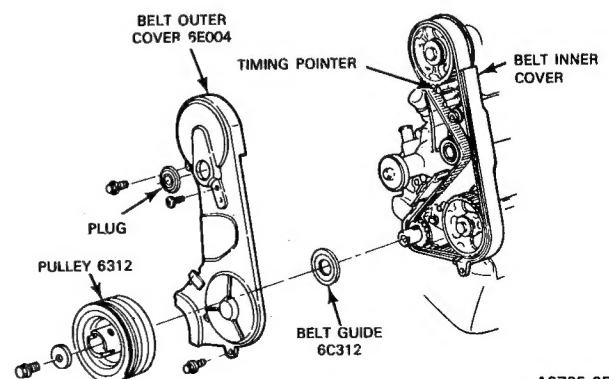

FIG. 9 Camshaft Timing Assembly
1. Remove the access plug (Figure 9) from the cam drive belt cover.
3. Look through the access hole in the belt cover to be sure that the timing mark on the cam drive sprocket (Figure 9) is lined up with the pointer on the inner belt cover.
1. Refer to Figure 9 and remove the timing belt outer cover.
2. If the belt timing is incorrect, loosen the belt tensioner adjustment screw (Figure 9), position the tool shown on the tension spring rollpin and release the belt tensioner. Tighten the adjustment screw to hold the tensioner in released position.
3. Remove the crankshaft damper and belt guide (Figure 9).
9. Install the crankshaft damper and belt guide (Figure 9).